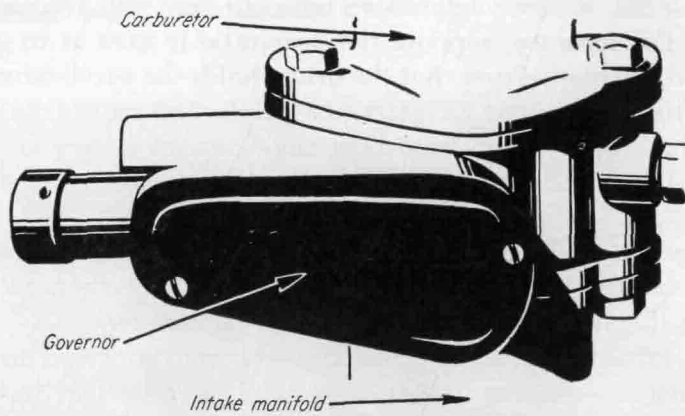

FIG. 5-6. Velocity, or vacuum, type of governor mounted between intake manifold and carburetor.
2. *Velocity and vacuum types.* Velocity and vacuum types of governors mount between the carburetor and the intake manifold (Figs. 5-6 and 5-7). The velocity type of governor has a throttle plate that is mounted off center. It is held open by a spring. As engine speed increases, the air-fuel mixture moves faster through the carburetor air horn and through the governor. The increased velocity of the air-fuel mixture tends to close the governor throttle; it strikes the unbalanced part of the throttle and pushes it toward the closed position. Opposing this force is the spring tension. As governed speed is attained, the two opposing forces position the throttle in a partly closed position. This position admits just enough air-fuel mixture to maintain governed speed. The vacuum type of governor works in almost the same way except that the closing force comes from intake-manifold vacuum. Intake-manifold vacuum increases with increased speed. This increasing vacuum acts on a vacuum piston that is linked to the governor throttle. The vacuum